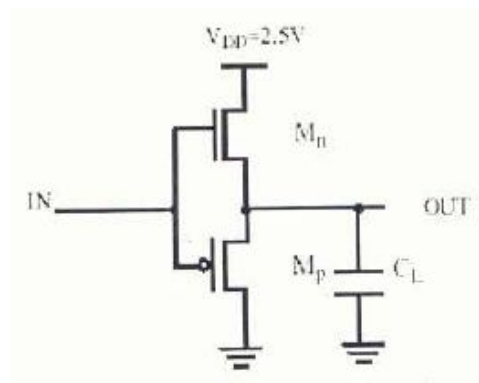

Fig.2
2. Consider an unconventional buffer/driver circuit (similar to an inverter circuit) as shown in Fig.2, where the pull-up is an NMOS device and the pull-down is a PMOS device. Ignore body effect and channel-length modulation. (10)